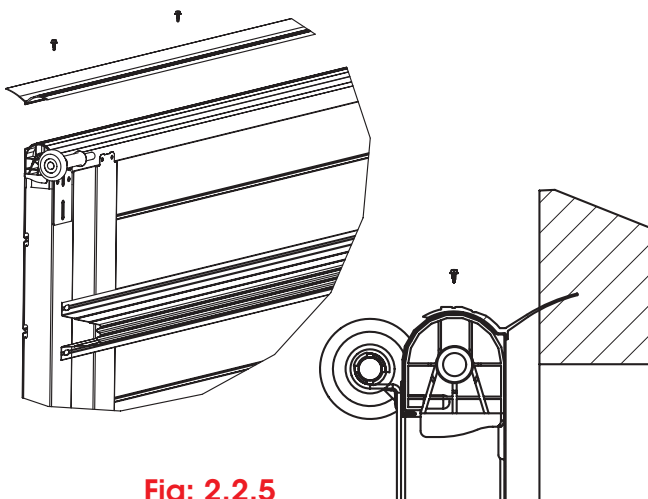

Fig: 2.2.5
j) Once you have finished assembling the middle panels, fit the PFI Seal (if included) to the top panel as shown in Fig 2.2.5 or alternatively fit the seal to the lintel. The fixing points should be spaced at 300 - 400 mm centres.